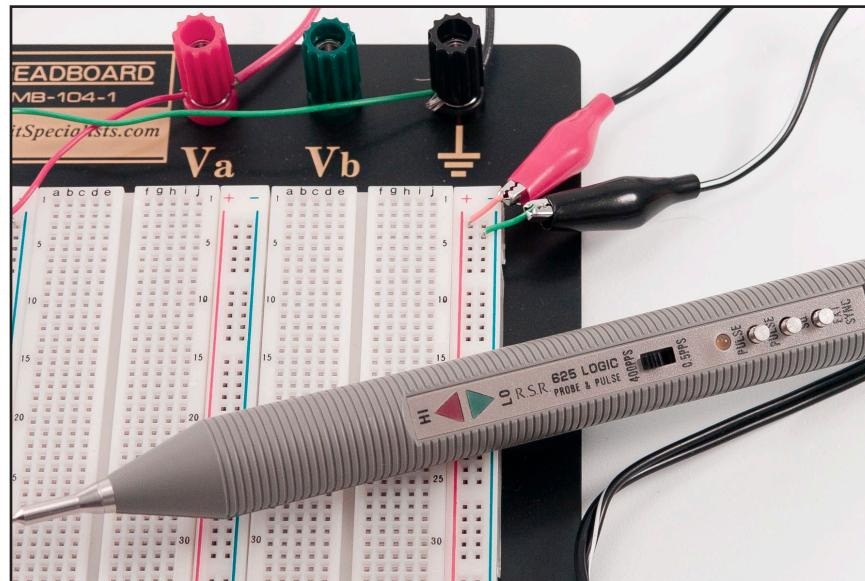

Figure 3.5 Connecting the Logic Probe
1. Connect your probe's alligator clips to the power and ground lines (Figure 3.5).